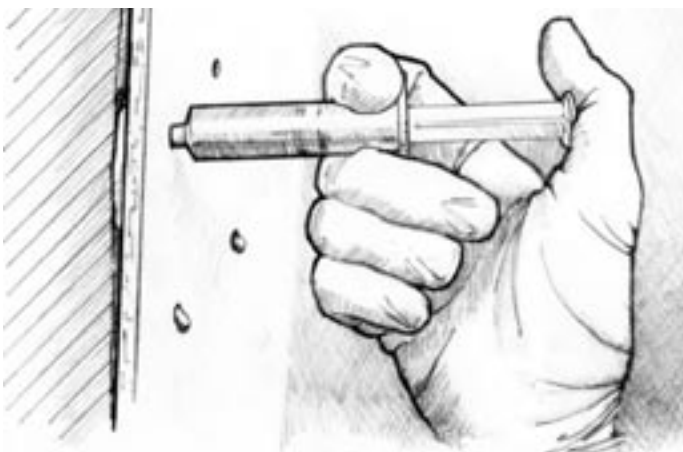

Figure 8-1 Drill 5mm holes through the laminate, in areas of suspected voids. Inject the mixture into the voids.
3. After the laminate and voids have been thoroughly dried, fill all voids between the laminate and lead ballast with an epoxy/404 or 406 filler mixture, thickened to a ketchup consistency. Use an 807 Syringe, with the tip cut back to fit the 5mm hole and inject the mixture under pressure into the void (*Figure 8-1*). Fill the remaining holes in the laminate with an epoxy/404 or 406 filled mix, thickened to a mayonnaise consistency. Allow the epoxy to cure thoroughly. If voids are extensive, use a clean, dry caulking tube (with the appropriate sized drilled hole in the laminate) to fill the voids. If necessary, use multiple applications to avoid excessive exothermic heat build-up when filling large volume voids.